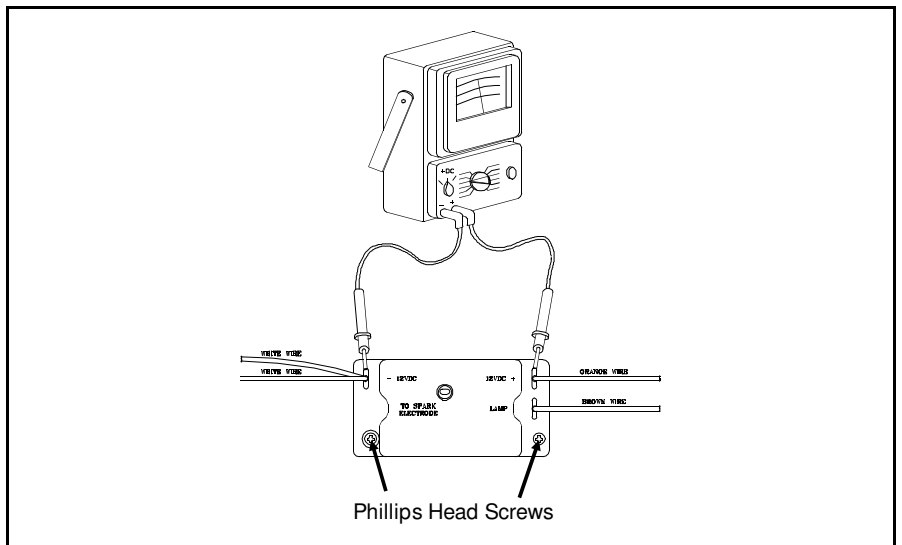

Figure 3.22 12 Volt Check at White and Orange Terminals
7. Then remove Phillips head screws which retain relighter in position as illustrated in Figure 3.22. Reconnect the spark wire.